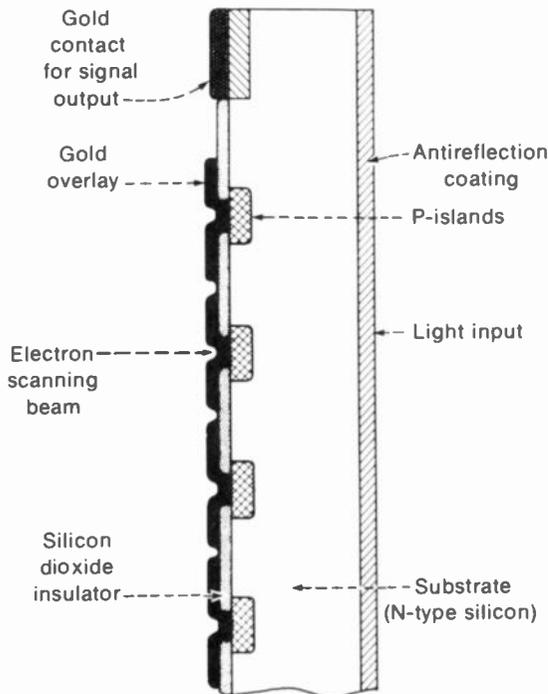

FIGURE 3-14 CONSTRUCTION OF TARGET PLATE OF SILICON PHOTODIODES. (BELL TELEPHONE LABORATORIES)
The silicon target plate is typically 0.001 in. thick and about  $1/2$  in. square. One side is oxidized to form a film of silicon dioxide, which is an insulator. Then by photolithographic processes similar to those used in making miniature integrated circuits, an array of openings is produced in the film. This layer with its holes is used as a diffusion mask for producing the individual photodiodes. The doping element boron (B) is vaporized through the array of holes, forming islands of P-type silicon on one side of the N-type silicon substrate. An overlay of gold is centered on each P-type area (Fig. 3-14). The resulting PN photodiodes have a diameter of 0.0003 in. A typical array has  $540 \times 540$  diodes.